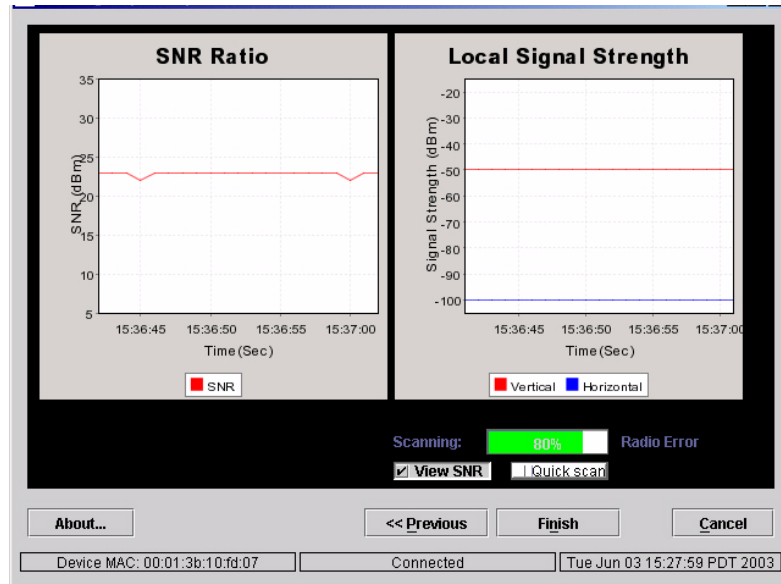

Figure 5-11 Alignment Window with SNR Graph
- b. Once the Local Signal Strength value is maximized, click on the **View SNR** button to display the full window as shown in *Figure 5-11*. SNR (signal-to-noise ratio) values in the red area are not good; values in the yellow area are acceptable; values in the green area are best. (However, the unit can operate reliably to an SNR level of 12 dB in QPSK.)